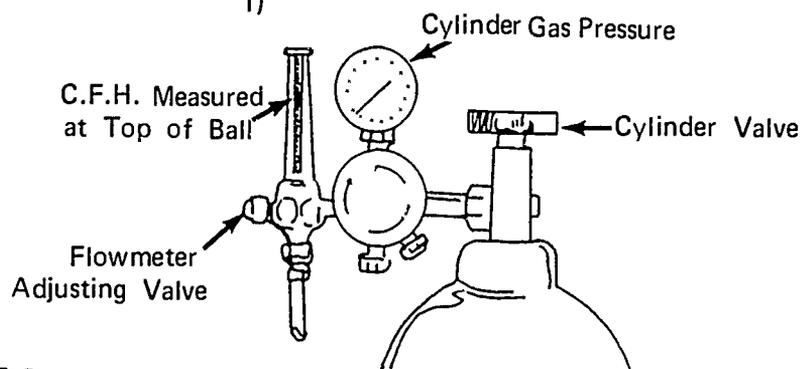

FIGURE 1
- f. Adjust desired flow rate (c.f.h.) and release trigger (Figure 1)